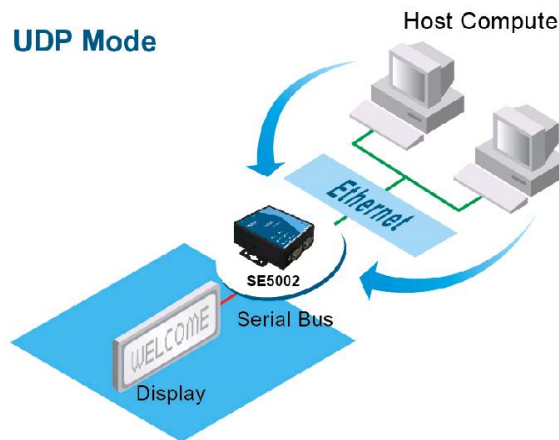

Fig. 3. UDP Mode
**UDP Mode** : UDP is a fast but non-guaranteed datagram delivery protocol. SE5002 can be configured in a UDP mode on a TCP/IP Network to establish a connection, using unicast or broadcast data to and from a serial device to one or multiple host computers (Fig 3 UDP Mode).